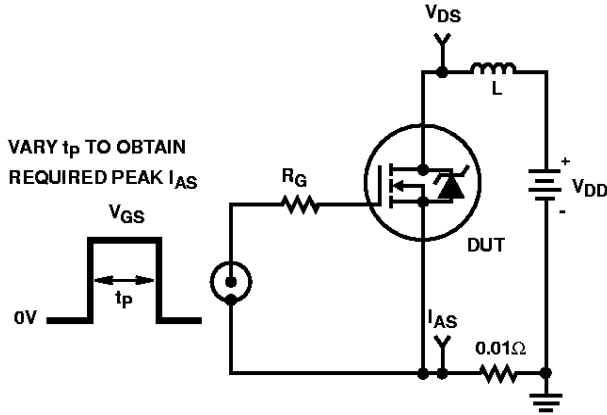

FIGURE 15. UNCLAMPED ENERGY TEST CIRCUIT
4.  $V_{DD} = 50\text{V}$ , starting  $T_J = 25^\circ\text{C}$ ,  $L = 31\mu\text{H}$ ,  $R_{GS} = 25\Omega$ , peak  $I_{AS} = 3.3\text{A}$ . Figures 15, 16.